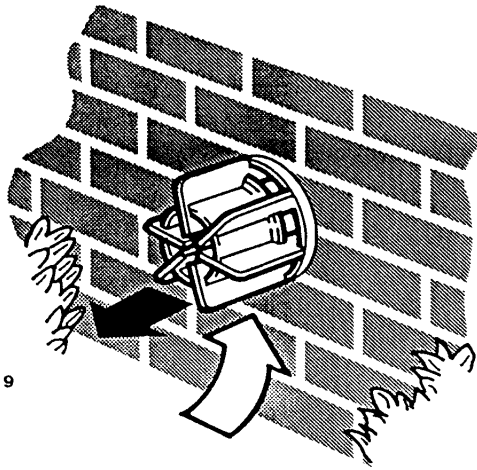

Fig. 9
1. The appliance may be tilted to any suitable wall with the flue passing through an outside wall and discharging to atmosphere in a position permitting satisfactory removal of combustion products and providing an adequate air supply (Fig. 9). The appliance should be fitted within the building unless otherwise protected by a suitable enclosure ie. garage or outhouse. (The appliance may be fitted inside a cupboard. Cooling ventilation and insulation of the cupboard are not required, see section 4.5.)